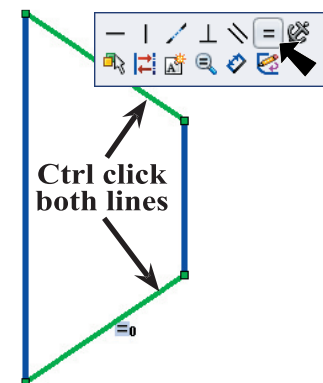

Fig. 23
Step 2. Select **top and bottom lines**. Use **Ctrl click**. To Ctrl click, hold down the Ctrl key and click both lines, **Fig. 23**.